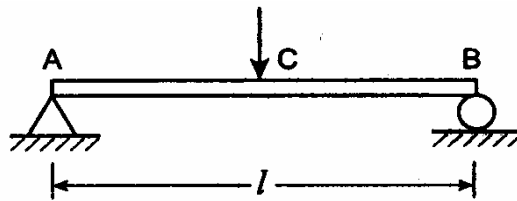

figure 1.2
2. A beam AB of span 'l' simply supported at the ends and carrying a concentrated load 'W' at the centre 'C' as shown in figure 1.2. Determine the deflection at the mid span by using Rayleigh-Ritz method and compare with exact solution. Use a suitable one term trigonometric trial function.